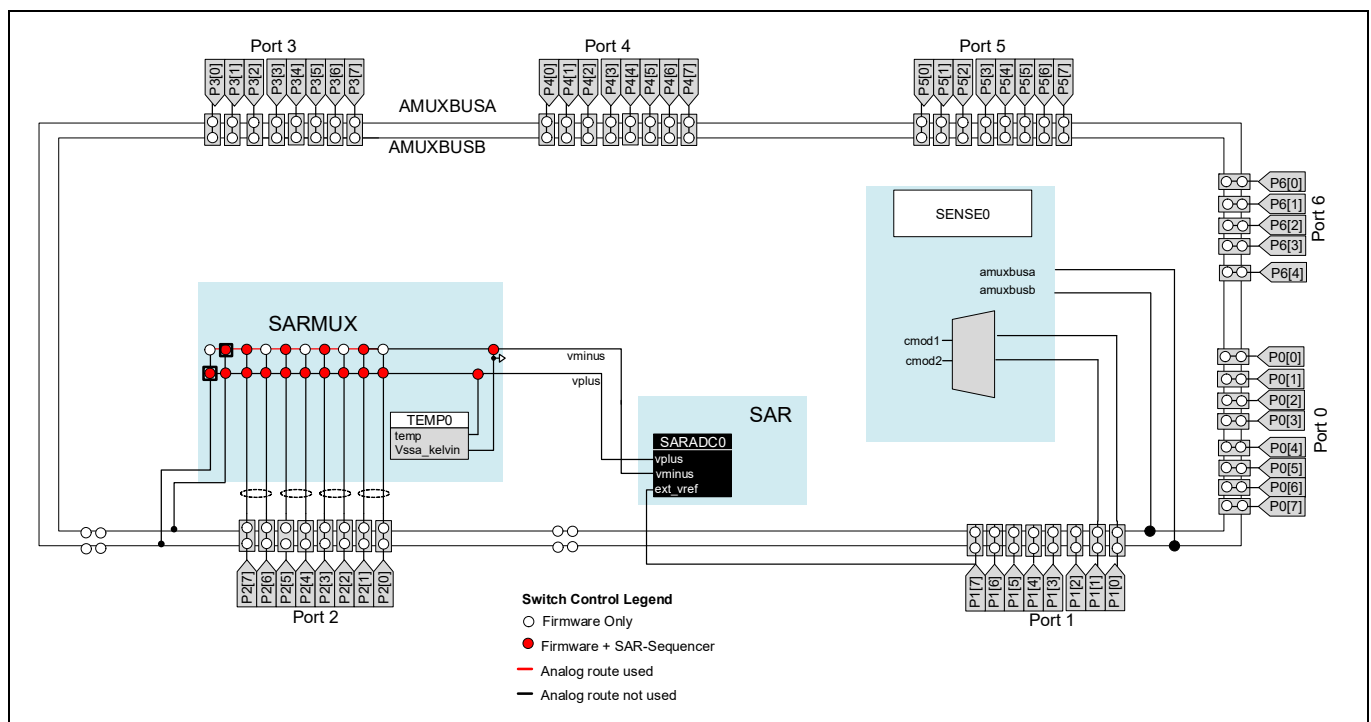
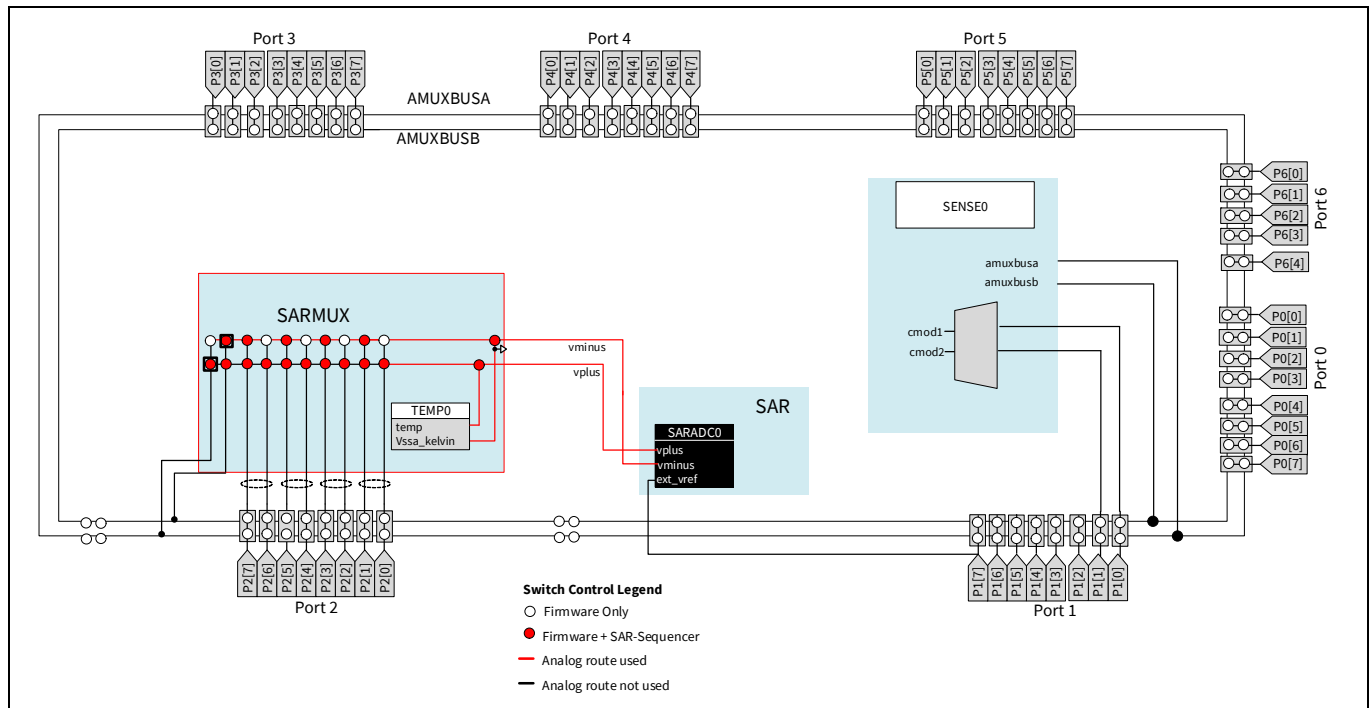

Figure 21-1. SARMUX switches and control capability
Figure 21-4. Inputs from temperature sensor
SARMUX has many switches that may be controlled by SARSEQ block (sequencer controller) or firmware. The sequencer is the hardware control method, which can be masked by the hardware control bit in the register, SARx_MUX_SWITCH_CTRL. Different control methods have different control capability on the switches. See Figure 21-1.
Sequencer control: The switches are controlled by the sequencer in SARSEQ block. After configuring each channel's analog routing, it enables multi-channel automatic scan in a round-robin fashion, without CPU intervention. Not every switch can be controlled by the sequencer; see Figure 21-1. The corresponding registers are: SAR_CHANx_CONFIG, SAR_MUX_SWITCH0, SAR_CTRL, and SAR_MUX_SWITCH_HW_CTRL.
Firmware control: Programmable registers directly define the VPLUS/VMINUS connection. It can control every switch in SARMUX; see Figure 21-1. For example, in firmware control, it is possible to do a differential measurement between any two pins or signals, not just two adjacent pins (as in sequencer control). The corresponding registers are: SAR_MUX_SWITCH0, SAR_MUX_SWITCH_HW_CTRL, and SAR_CTRL.
As **Figure 21-4** shows, temperature sensor can be routed to positive input of SAR ADC via switch, which can be controlled by sequencer, firmware. Setting the MUX_FW_TEMP_VPLUS bit (SAR_MUX_SWITCH0[17]) can enable the temperature sensor and connect its output to VPLUS of SAR ADC; clearing this bit will disable temperature sensor by cutting its bias current.
*Note: Certain analog blocks such as CAPSENSE™ has additional internal routing, which is not shown in **Figure 21-1** to **Figure 21-4**. See the respective chapters of these blocks in this document for details.*